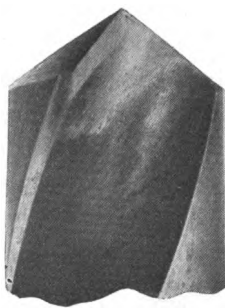

Fig. 21
- 68 The drill may be assisted in almost any hard material by the use of turpentine or kerosene. Another method is to reduce the entering angle of the lips or the “Rake Angle” as it is sometimes called (See Par. 41 to 45), as in Fig. 21, so as to permit the use of a heavy feed pressure. If a heavy feed pressure were used without first grinding the sharp angles off the lip (called “Raking”) as in Fig. 21, the drill would chip severely on the lips.
87 When holes are deeper than two drill-diameters, it is sometimes difficult to get rid of the chips. A point like Fig. 21 is especially efficient under these conditions — with slower speed and heavier feed as the bottom of the hole is approached.